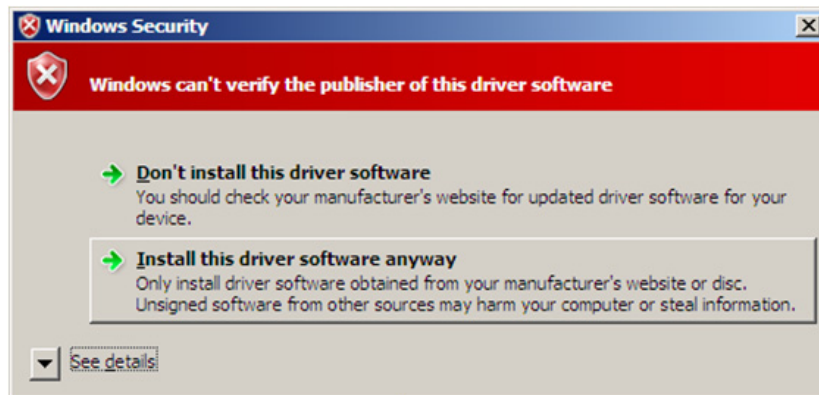

Figure 32. Windows Security Dialog Box
- e. **Windows Security dialog box:** The Windows Security dialog box shown in Figure 32 will appear once if PU515 was selected and twice if PU410 was selected. Click **Install this driver software anyway** to continue.